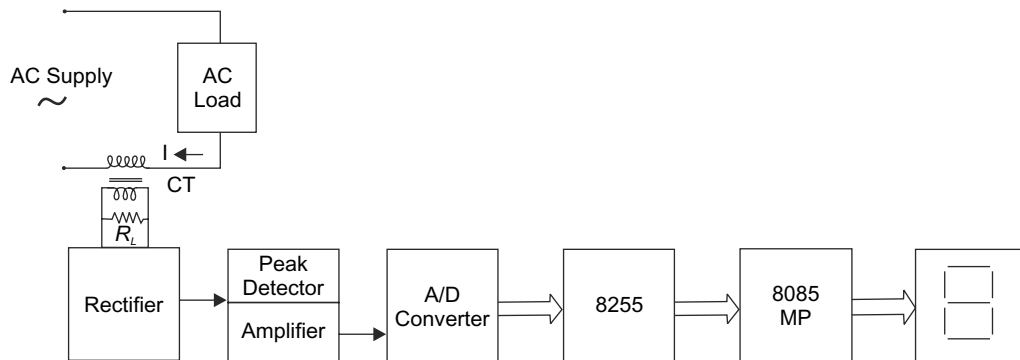

Fig. 10.17 An ac current measurement
In ac current measurement, a Current Transformer (CT) may replace the sensor resistance. The current transformer (CT) or a core-balanced transformer should be connected with a burden as depicted in Fig. 10.17. The output signal in the voltage drop across the secondary of CT or burden resistance is applied to an A/D converter through precision rectifier and peak detector circuit. Then the microprocessor measures analog voltage and displays it in seven-segment display units.